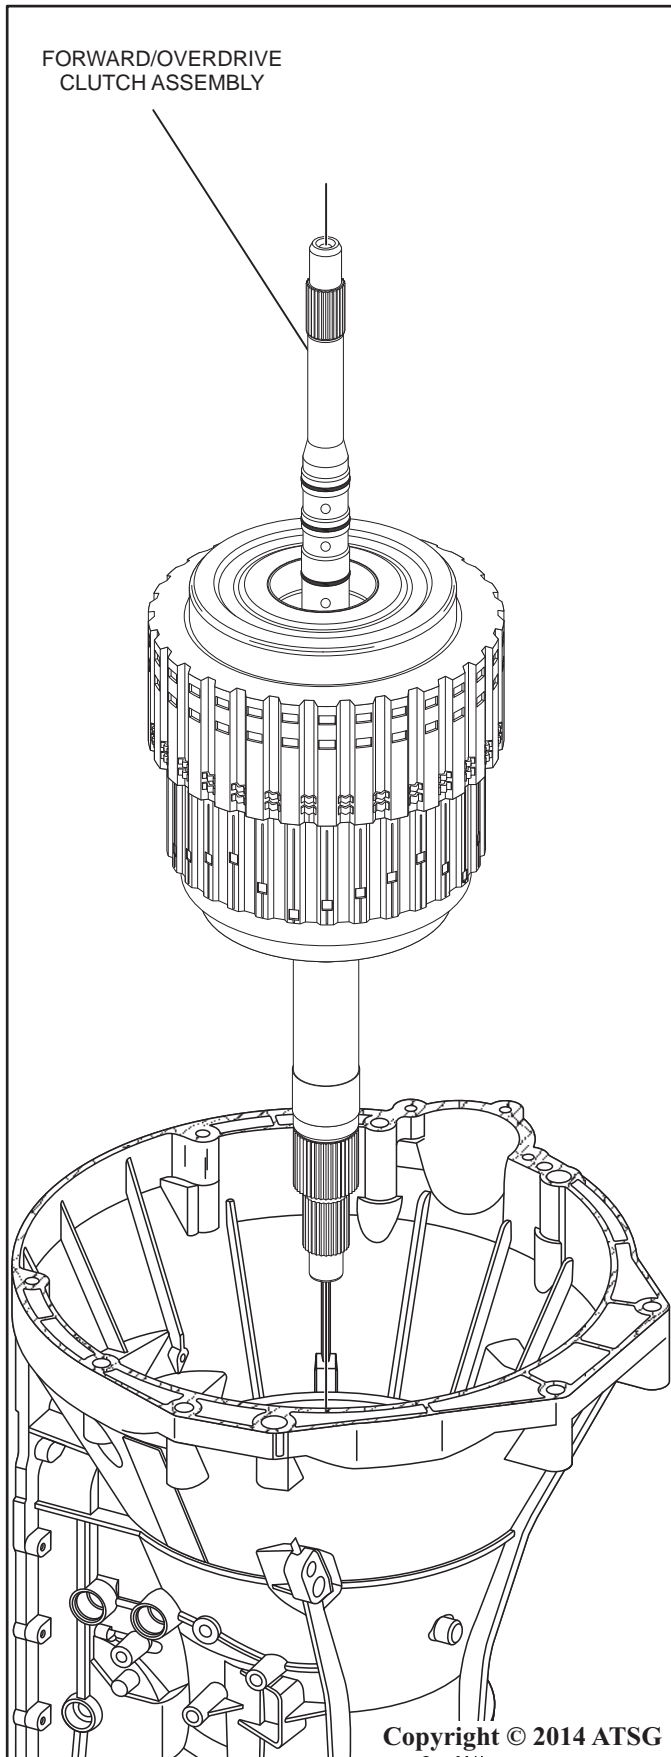

Figure 49
28. Remove the forward/overdrive clutch assembly as shown in Figure 49 and set aside for disassembly and cleaning.